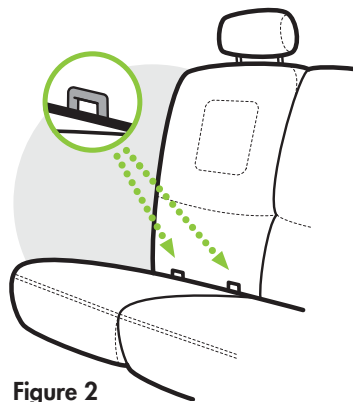

Figure 2
- The LATCH lower anchors are located in the crease between the seat back and seat cushion, as shown in **Figure 2**.